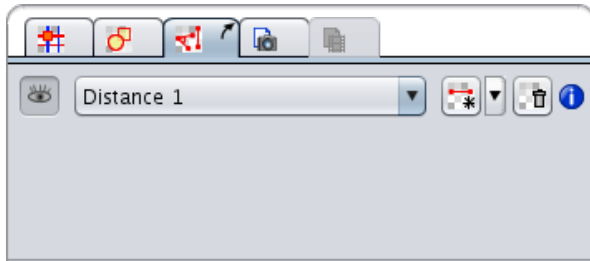

Figure 1.138: Measurement Tool
- The Measurement tool opens (see [Figure 1.138 \[p 160\]](#)).